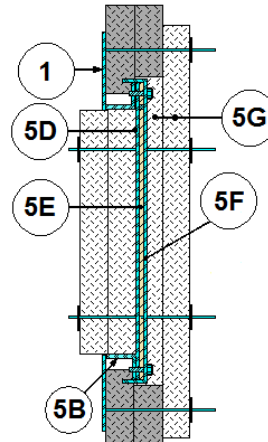

Figure 10a. Access Door
5. **ACCESS DOOR:** May install Intertek Certified, max. 26 in × 20 in. Ductmate Ultimate Access Door™ (not shown), with access door insulation described in Item 5G) for ASTM E2336 only. Additionally, when required by NFPA 96, install an access door using Figure 10a or 10b and the following field-fabricated methods: